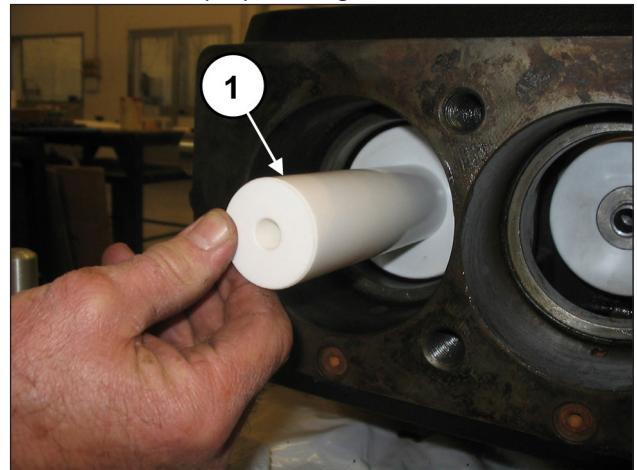

Fig. 137
Install the pistons on their respective guides (pos. ①, Fig. 137) and fasten them as per pos. ①, Fig. 138.